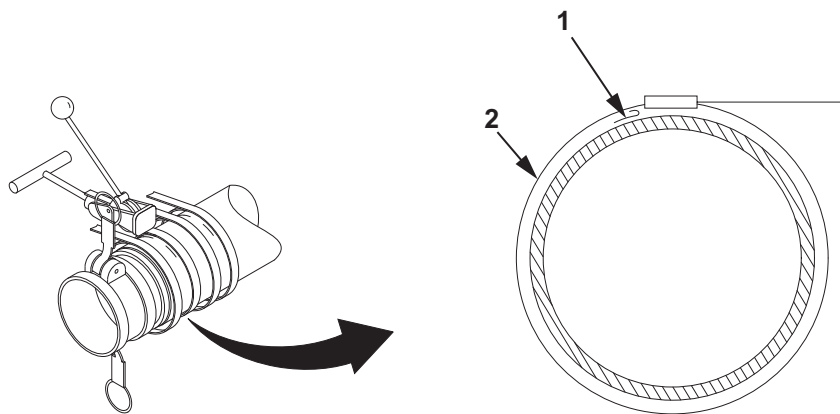

Figure 7. 4 In. X 10 Ft. Discharge Hose Repair.
15. Install the bridge buckle (Figure 7, Item 1) under clamp (Figure 7, Item 2).
16. Tighten clamp (Figure 7, Item 2) until the clamp (Figure 7, Item 2) cannot be tightened by hand any further.